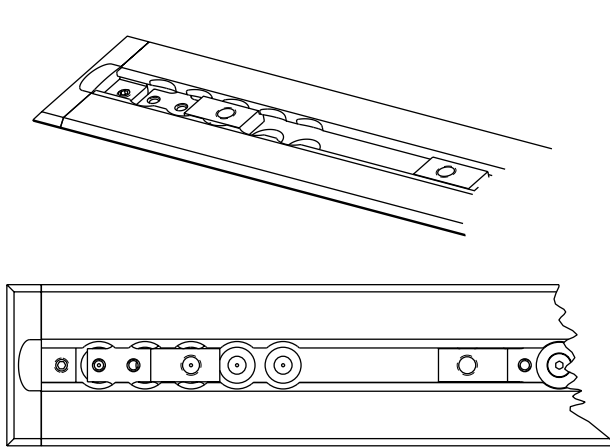

Figure 10: Insert Floor Plate Attachment Bracket
27. Insert a floor plate attachment bracket (6390-001-108) at the foot end of the vehicle patient compartment to install the safety hook (6390-001-148) (Figure 10). Line the notches with the tabs to insert, then slide the bracket into the floor plate assembly.